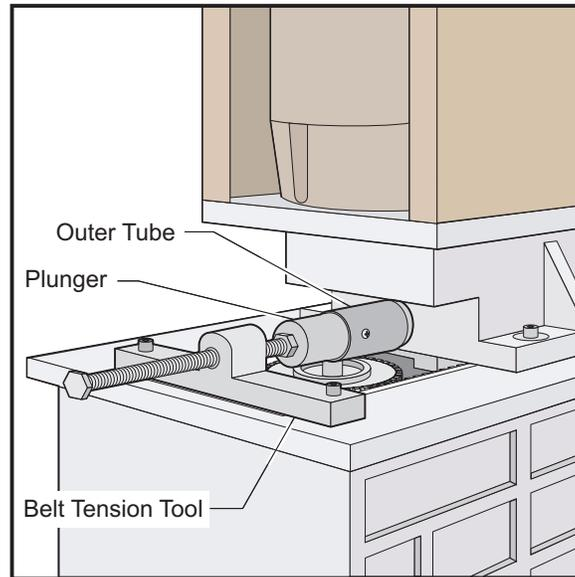

Figure 3.3-3 Belt tension tool.
5. Set the belt tension tool in place as shown in Figure 3.3-3. Mount it to the head casting by inserting the two SHCS into the two front TRP mounting holes. Tighten the SHCS finger tight.
2. Set the belt tension tool in place as shown in Figure 3.3-3. Mount it to the head casting by inserting the two SHCS into the two front TRP mounting holes. Tighten the SHCS finger tight.